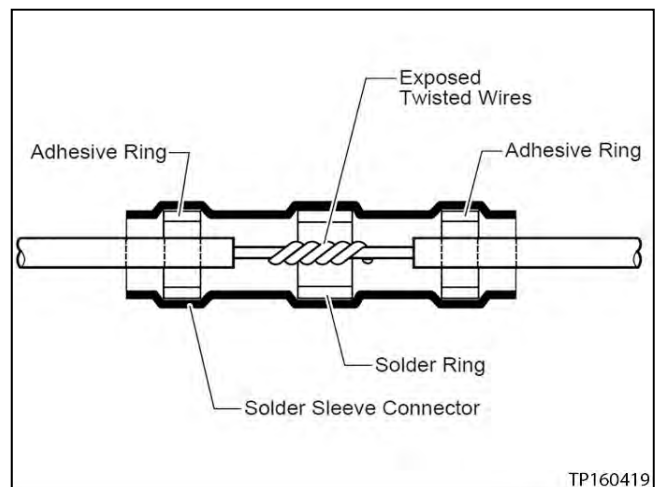

Figure 34
40. Position the solder ring in relation to the twisted wires as shown in Figure 34.